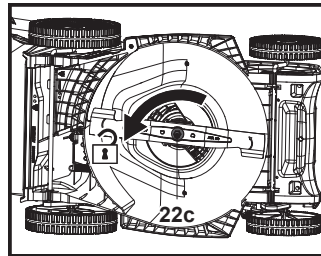

Fig. 20
1. Keep the underbody and cutting blade (22) clean and free of debris. Remove clippings from the rear discharge chute (21).
3. Keep the cutting blade (22) sharp to ensure a good cutting performance. Replace a worn or damaged cutting blade with a new one of the same type or have it sharpened by a qualified specialist.
4. Loosen the mounting bolt (22c) counterclockwise using a suitable electric impact wrench (socket size 13 mm) (Fig. 20), remove it together with the flat washer (22b) and the cutting blade (22).